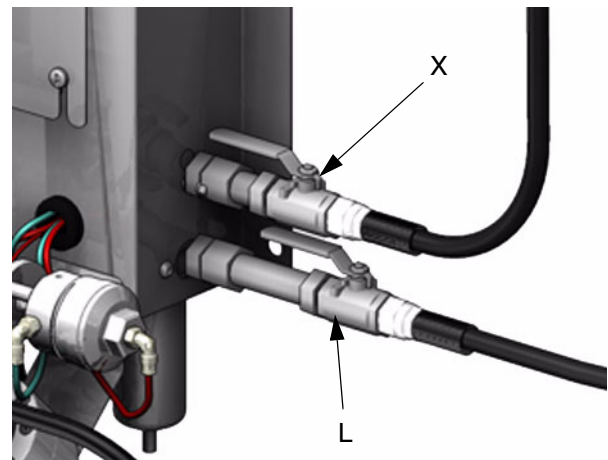

FIG. 8
2. Install a bleed-type shutoff valve (L) into the air filter inlet  on the Smart Fluid Panel. FIG. 8.
4. Install a bleed-type shutoff valve (X) into the air purge valve inlet  on the Smart Fluid Panel. FIG. 8.
5. Connect an air supply line to the shutoff valve (X) to supply air for the solvent and air purge sequence. Use a clean, dry air supply (install filters/dryers as needed),